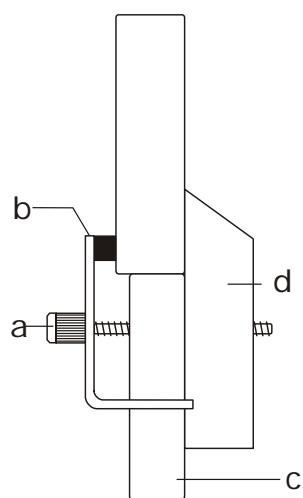

Fig. 5 Insertion of crystal into sample holder (a Screw, b Clamp, c Base, d Fixed section of sample holder)
- Remove the clamp from the sample holder and place the mounting clip for glass rods (from U19205) in the sample holder (see Fig. 5).
- Move the measuring arm to an angle  $2\theta = 45^\circ$ . You should select the side of the goniometer so that impinging and reflected beams are on the angled side of the sample holder (see Fig. 5).